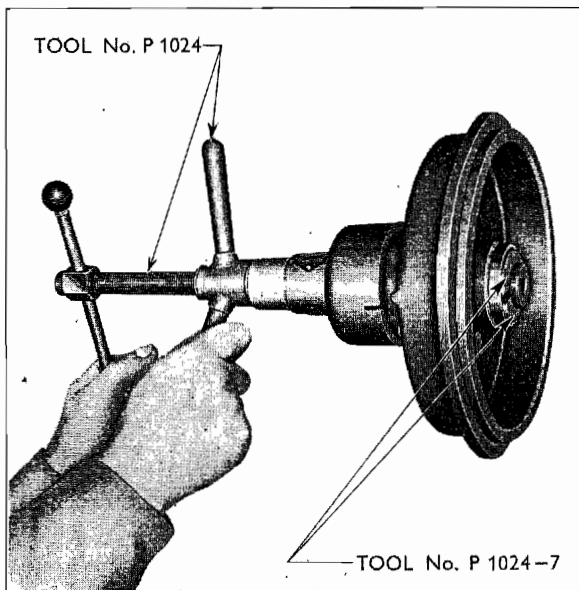

Fig. 2
1. If the bearing cups have been removed, they should be replaced, using tool No. P.1024 as shown in Fig. 2. Fit one cup at a time, screwing the appropriate adaptor onto the centre bolt to pull the cup into the hub.